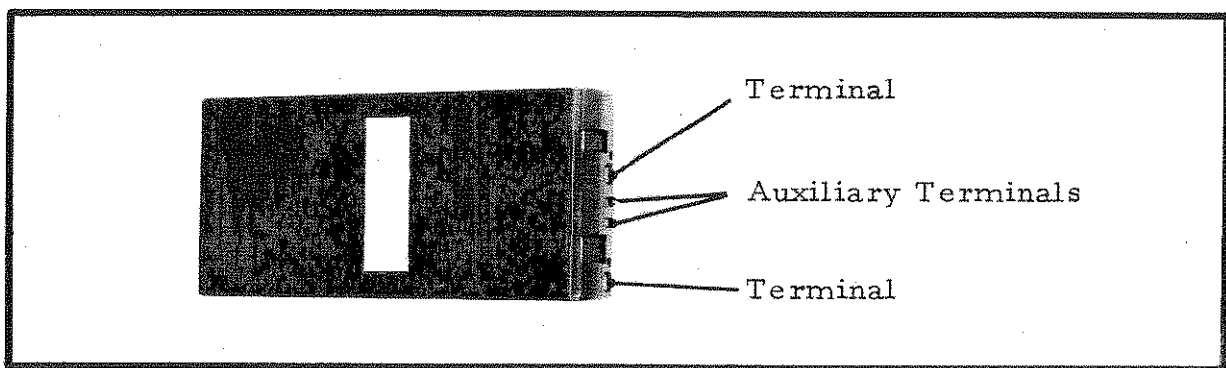

FIG 7
16. Battery, Storage, BB-F1. (Fig 7). This battery has a nominal voltage of 24 volts. It consists of 22 nickel cadmium cells connected in series and enclosed in a plastic insulating case. The shape of the case prevents the battery from being inserted with incorrect polarity. The two terminals are circular studs, asymmetrically placed, on one end of the battery. Two rectangular auxiliary terminals (if fitted), provide a thermal sensing facility which will enable the possible future application of a rapid charging technique.